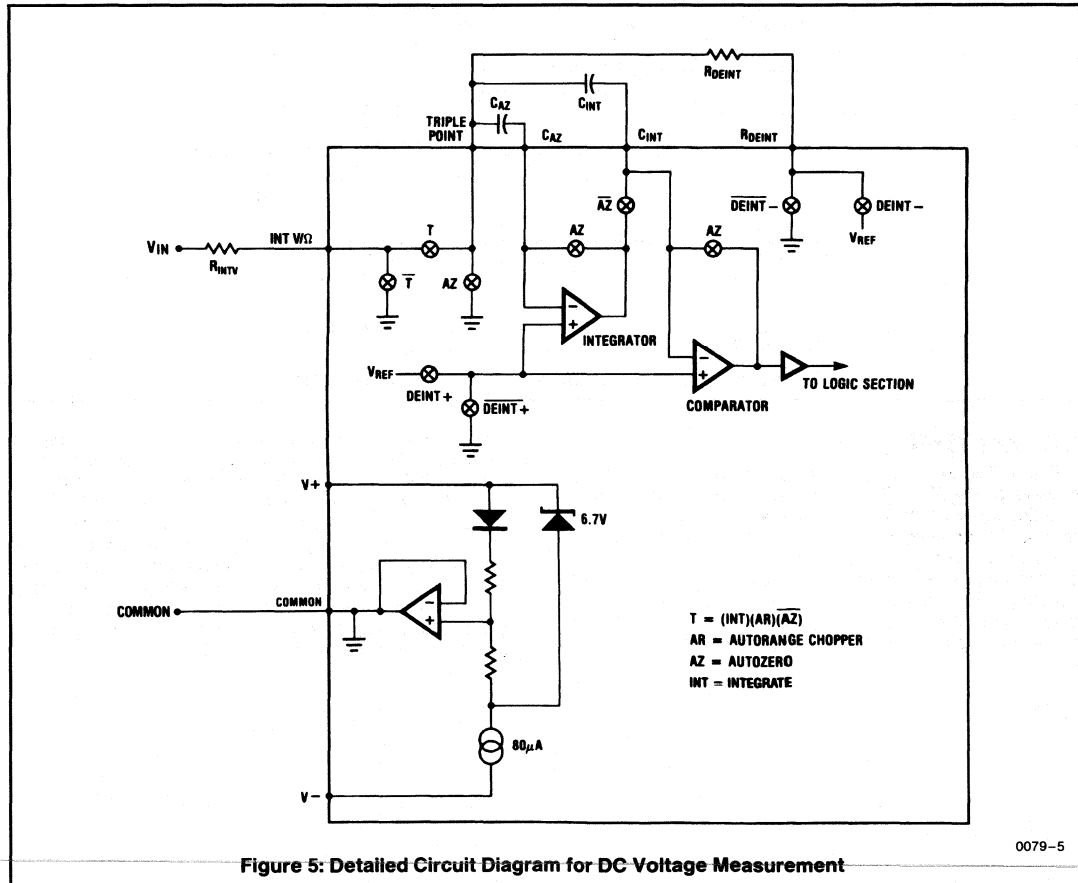
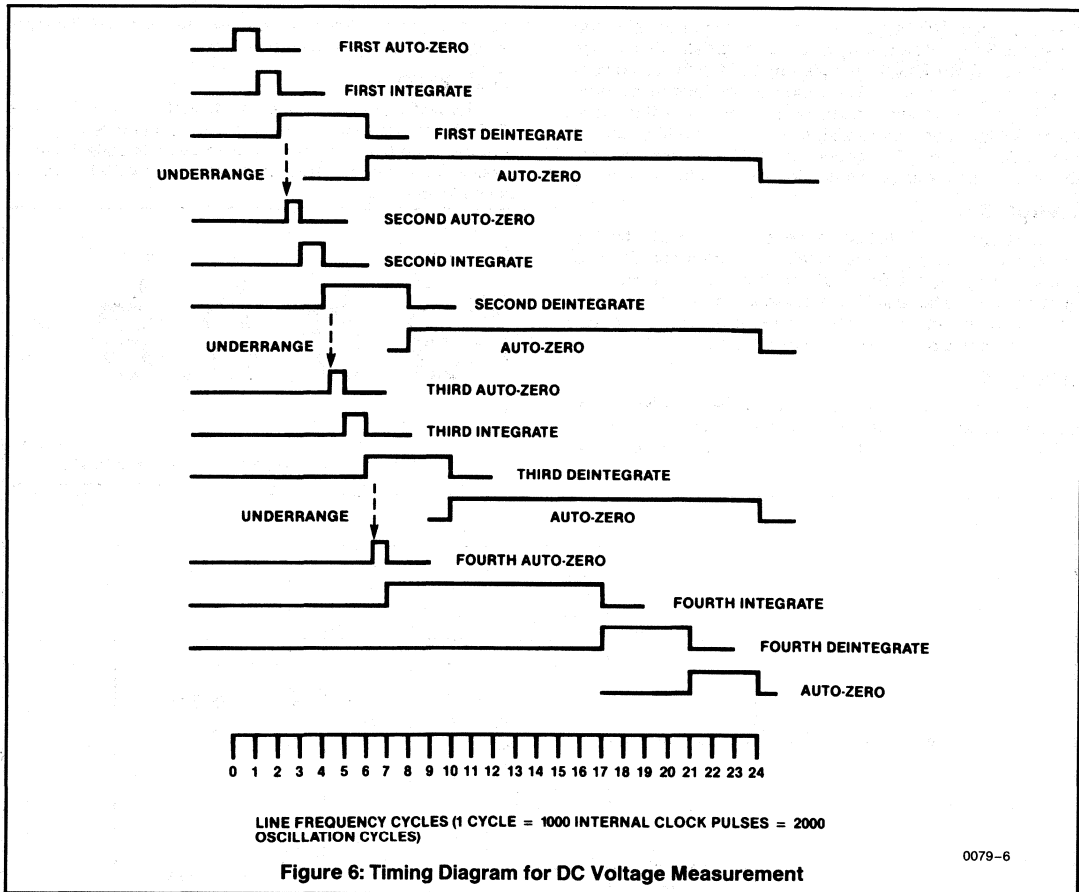

Figure 5: Detailed Circuit Diagram for DC Voltage Measurement
Figure 6: Timing Diagram for DC Voltage Measurement
Only those portions of the analog section which are used during DC voltage measurements are shown in Figure 5. As shown in the timing diagram (Figure 6), each measurement starts with an autozero (AZ) phase. During this phase, the integrator and comparator are configured as unity gain buffers and their non-inverting inputs are connected to Common. The output of the integrator, which is equal to its offset, is stored on CAZ—the autozero capacitor. Similarly, the offset of the comparator is stored in CINT. The autozero cycle equals 1000 clock cycles which is one 60 Hz line cycle with a 120 kHz oscillator or one 50 Hz line cycle with a 100 kHz crystal.